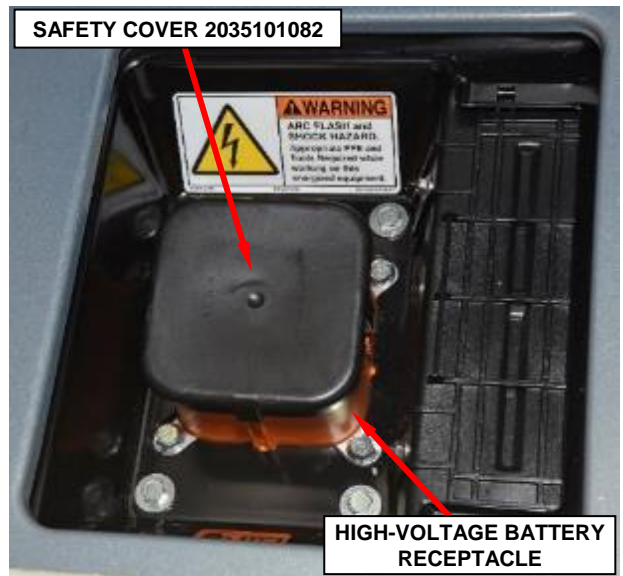

Figure 13 – High-Voltage Battery Receptacle Safety Cover
20. Cap the receptacle on the high-voltage battery with safety cover 2035101082 to prevent foreign objects from entering the receptacle (Figure 13).